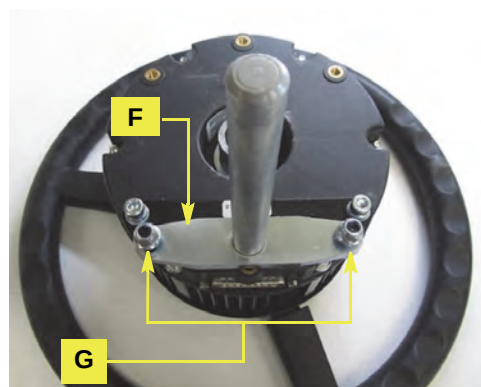

Figure 1d: Anti-rotation T-bar installed
- Using nuts **G**, loosely attach T-bar **F** to bracket **D** (Figure 1d).